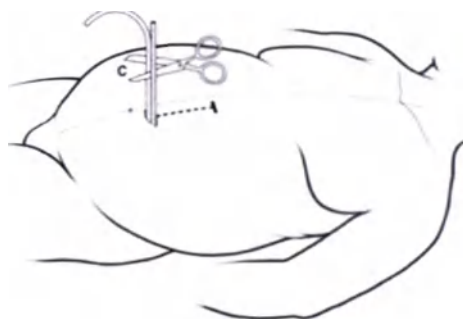

Figure 10
See Figure 10.
7. Hold the external limb of the Lower Catheter next to, and parallel to, the Measuring Rod. Using the centimeter markings on the Measuring Rod, cut the Lower Catheter at the C length above the level of the fascia (Figure 10). Make a single, straight, perpendicular cut of the tubing with suture scissors.